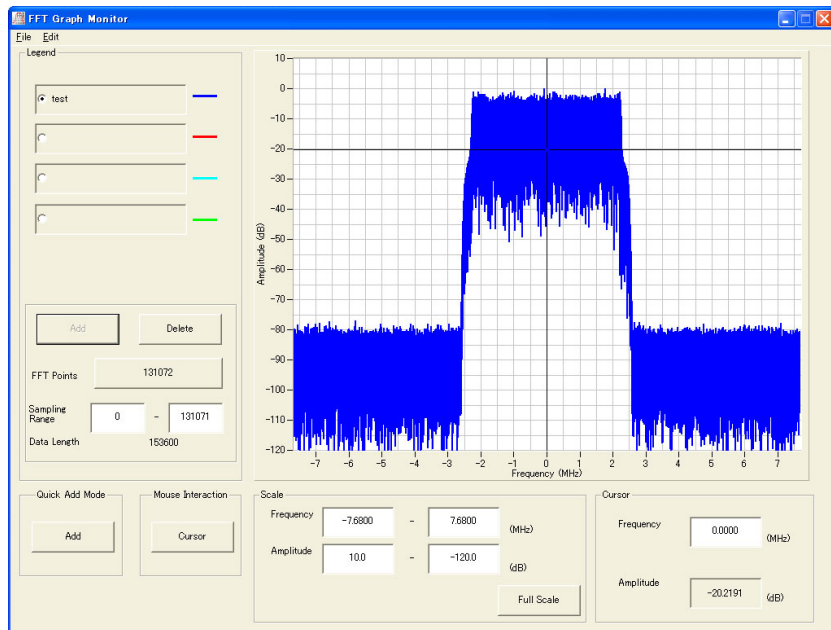

Figure 3.4-3 FFT Graph Monitor screen
2. Select **[FFT]** from the **[Simulation]** menu or click the  tool button. The FFT Graph Monitor screen shown in Figure 3.4-3 is displayed with the trace of the generated waveform pattern.